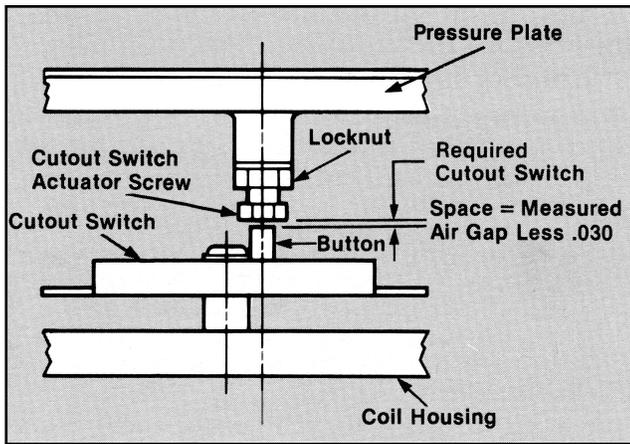

Figure 7. Cutout Switch Actuator Screw Adjustment
4. After the correct air gap is obtained, the space between the button of the cutout switch (670-247) and the head of the cutout actuator screw must be checked. To do this, measure the air gap between the pressure plate and coil housing at the brake stud nearest the cutout switch (Figure 7). Subtract 0.030 inch from the measured air gap, and this should be the space between the button of the cutout switch and the head of the screw. If the cutout switch space is other than the measured air gap less 0.030 inch, loosen the locknut on the pressure plate and rotate the screw until the proper space is obtained. Lock the screw in this position by tightening the locknut against the pressure plate (Figure 7).